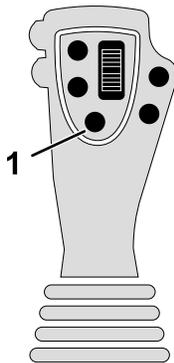
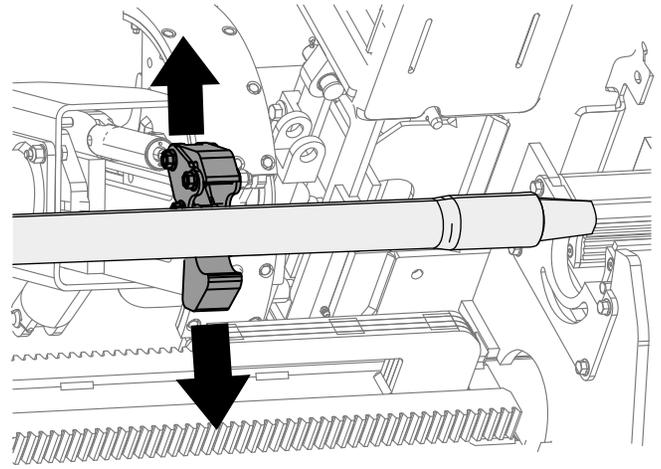

Figure 36
Figure 37
10. Hold the lower left button on the left joystick (Figure 36) to release the pipe (Figure 37) and release the button.